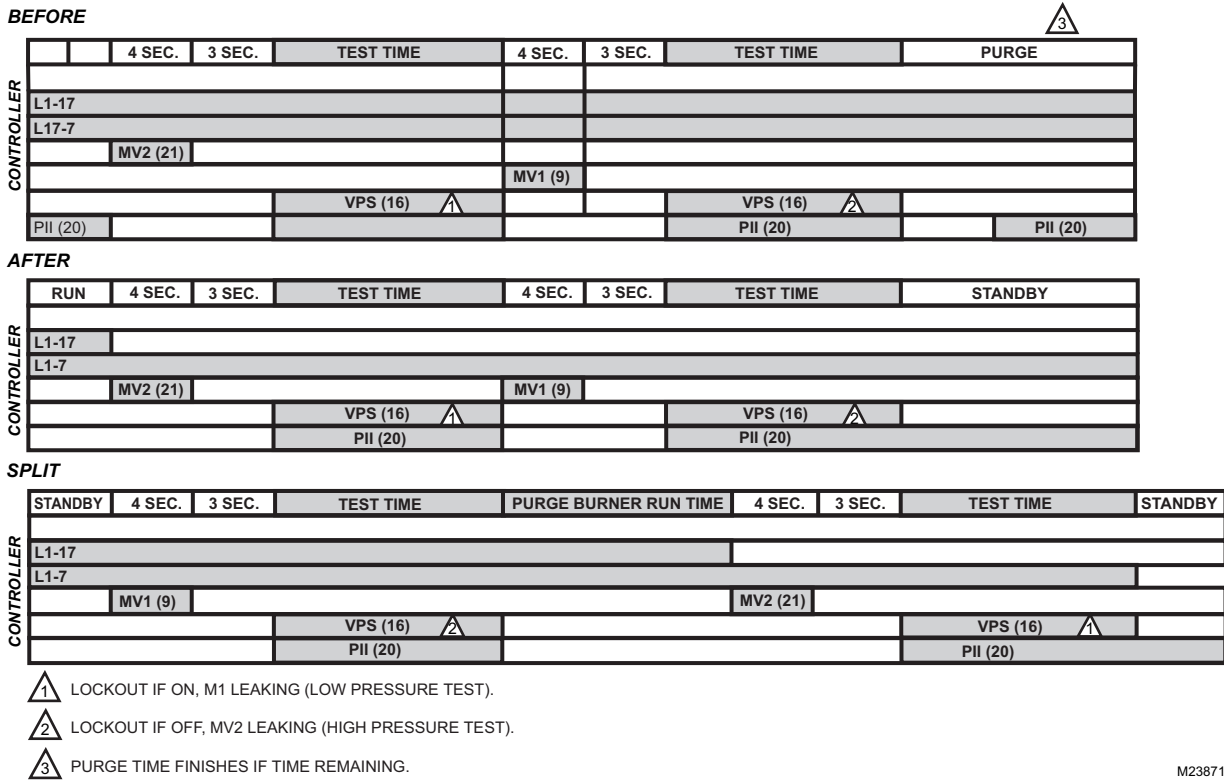

Fig. 4. RM7898 Relay Module operation, Valve Proving Test options.
1. Wiring connections for the relay modules are unique; refer to Figs. 4 and 5 or the appropriate Specifications for proper subbase wiring.
- For proper subbase wiring and sequence chart, refer to Fig. 4 and 5.